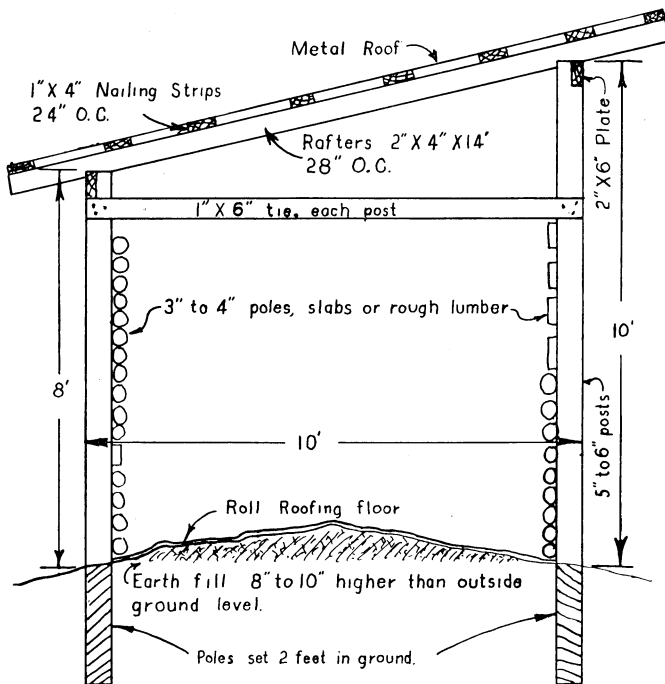

Figure 2. Section view of shed type pole crib.
**The type of roof for pole cribs** can be either metal or composition roll roofing. Solid sheathing would be required however for the composition material. The section view, Figure 2, shows the type of construction recommended for metal roofing.